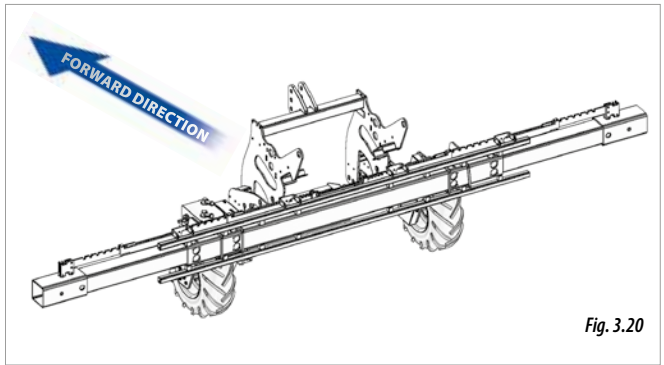

Fig. 3.20
- Variant simple telescopic (Fig. 3.20)